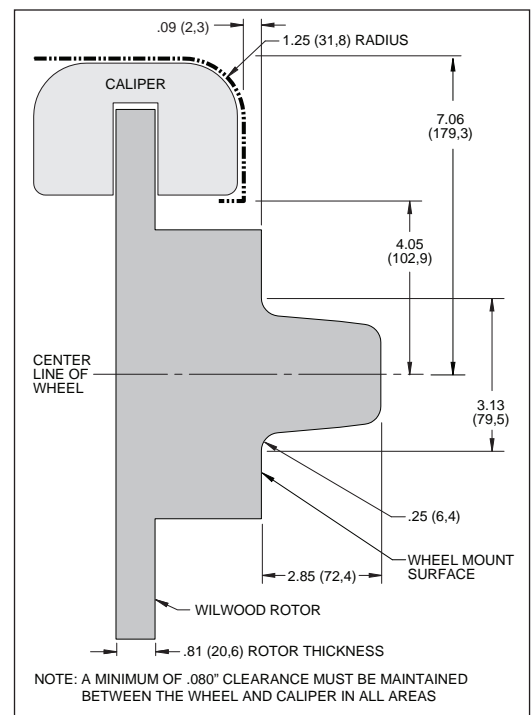

Figure 2. Wheel Clearance Diagram
- Review the wheel clearance diagram (figure 2, page 3) to verify that there is adequate clearance with the wheels you will be using with the installation.
- Verify wheel clearance utilizing Figure 2.